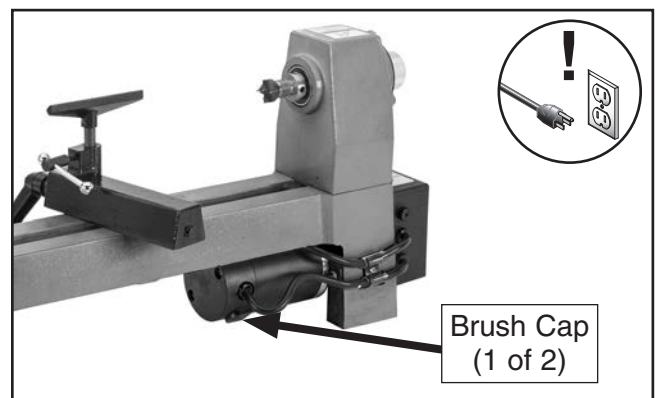

Figure 46. Location of motor brushes.
2. Unscrew and remove brush caps (refer to **Figure 46**) and worn brushes from motor.